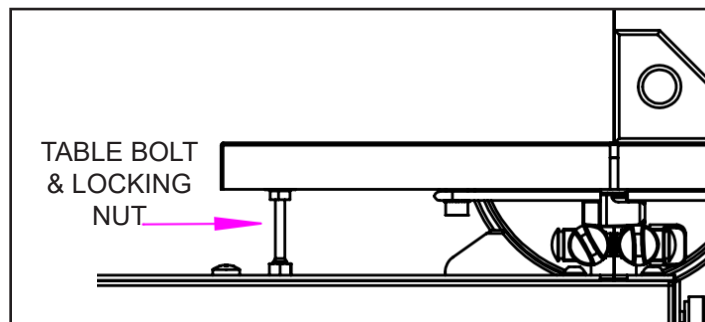

FIGURE 11
3. Make sure that the 90° Table Rest Bolt (#57) is not interfering with this process. Loosen the bolt's Locking Nut (#59) and screw the bolt downward, away from the underside of the table. FIG. 11.
7. Retighten the table rest's locking nut making sure that the 90° table angle setting is maintained. FIG. 11.